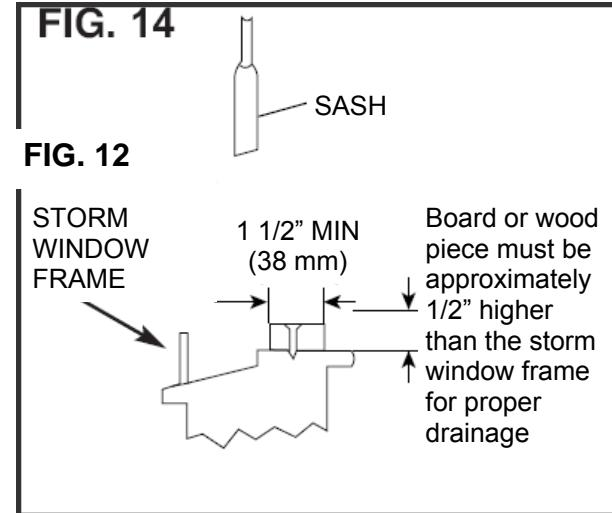

FIG. 12
5. To secure the lower sash into place, use the sash lock and a 3/4" screw as shown below (See FIG. 12)
A storm window frame will not allow the air conditioner to tilt properly which in turn will keep it from draining properly. To adjust for this, attach a board or piece of wood to the sill. The board or wood piece should have a depth of at least 1 1/2". Make sure the board or piece of wood is approximately 1/2" higher than the storm window frame. This will allow the air conditioner to tilt enough for proper drainage. (See FIG. 12).